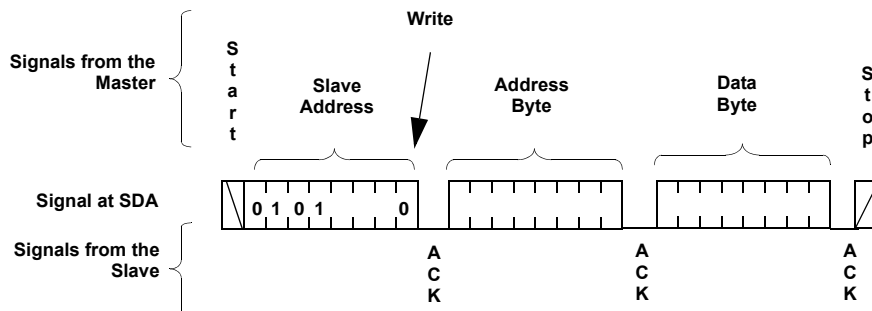

FIGURE 7. BYTE WRITE SEQUENCE
- 2. Access the desired DR or WCR using a new write or read command** (see Figure 7 for write and Figure 9 for read.)
For any Byte Write operation, the X9252 requires the Slave Address byte, an Address Byte, and a Data Byte (See Figure 7). After each of them, the X9252 responds with an ACK. The master then terminates the transfer by generating a STOP condition. At this time, if the write operation is to a volatile register (WCR, or SR), the X9252 is ready for the next read or write operation. If the write operation is to a nonvolatile register (DR), and the \overline{WP} pin is high, the X9252 begins the internal write cycle to the nonvolatile memory. During the internal nonvolatile write cycle, the X9252 does